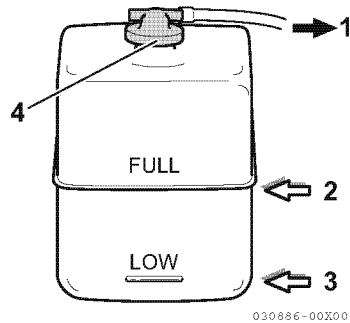

Figure 12
5. Check the coolant level in the reservoir. The level should be at the FULL mark (**Figure 12, (2)**). Add coolant if necessary.
6. Remove reservoir cap (**Figure 12, (4)**) to add coolant if necessary. Do not add water.
8. Check the rubber hose **(Figure 12, (1))** connecting the reservoir to coolant tank / heat exchanger. Replace if damaged.